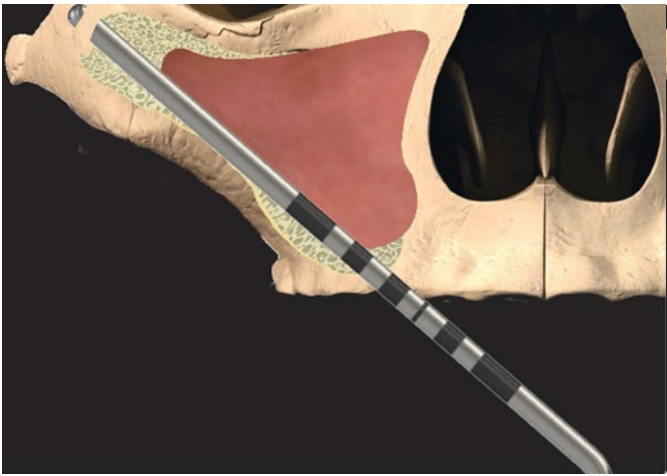

Figure 17
6. The depth of the prepared implant site and the implant head angulation are gauged by the use of the angled depth gauge (CH-I-DG/ I-ZYG-DG-1) (Figure 17).